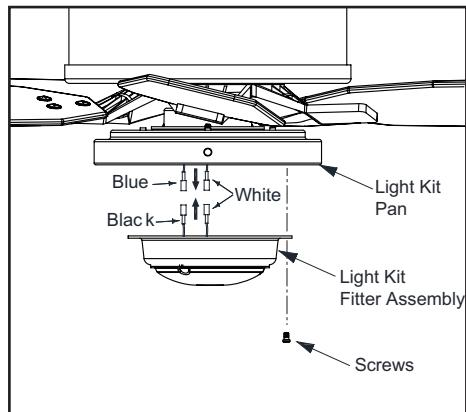

Figure 19
3. Remove one screw from the light kit pan, and loosen but do not remove the other two screws. Connect the wires from the light kit fitter assembly to the wires from the fan motor assembly by connecting the molded adaptor plugs together. Carefully tuck all wires and splices into the switch cap. (Figure 19)
4. Push the light kit fitter assembly up so that the two loosened screw heads fit into the keyhole slots. Turn the light kit fitter assembly clockwise, tighten the screws. Re-install the screw that was removed in step 3 and tighten firmly. (Figure 19)